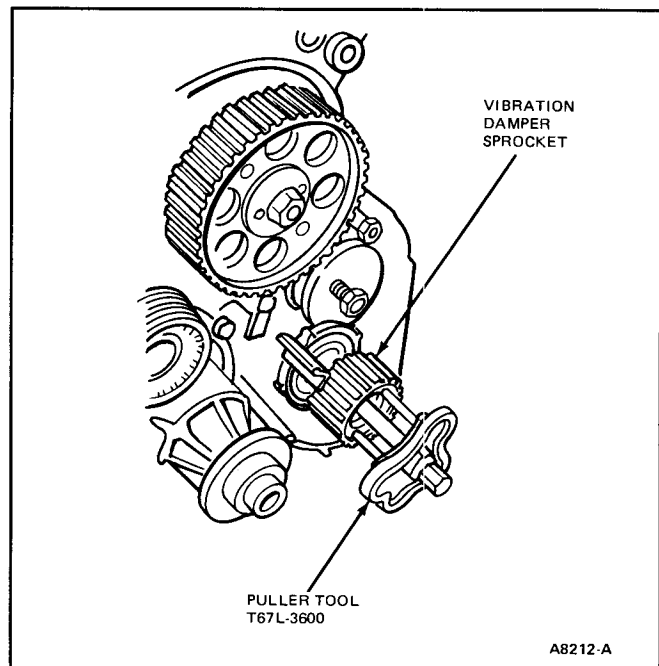

FIG. 40 Vibration Damper Sprocket Removal
10. Remove vibration damper flange and sprocket retaining bolt and remove flange and sprocket using puller, T67L-3600-A or equivalent (Fig. 40).